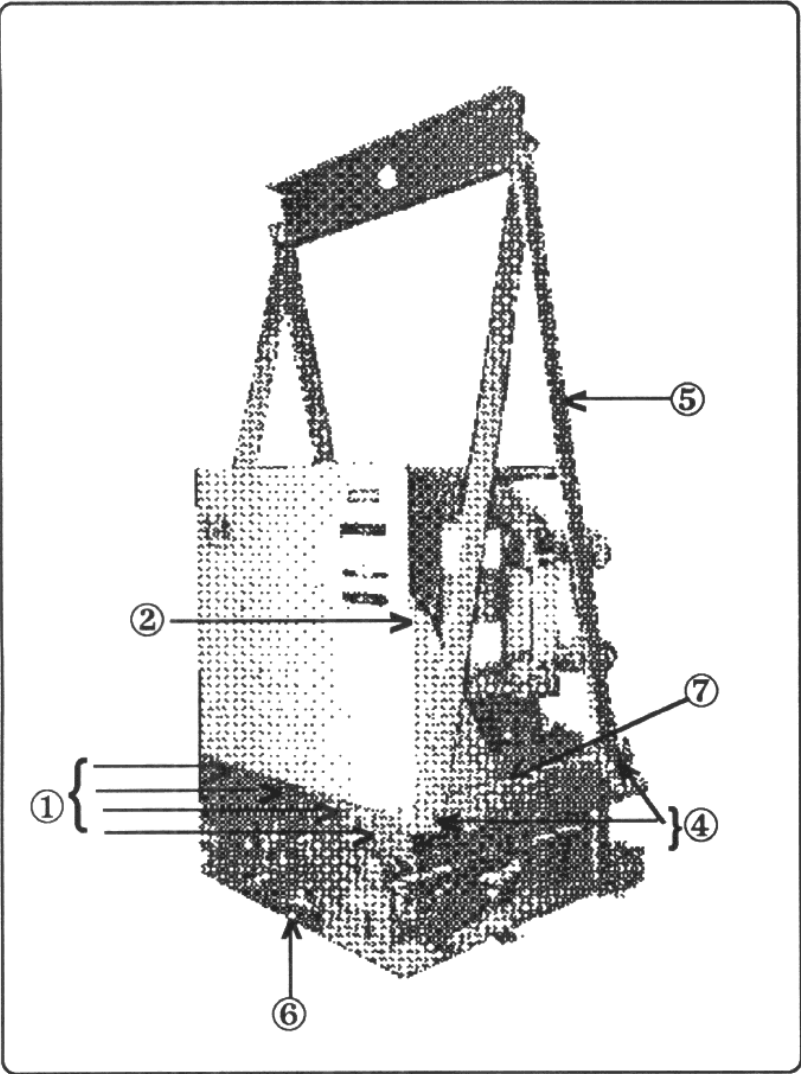

Fig. 1 - Circuit Breaker Assembly with Lifting Yoke Installed
Referring to Fig. 1, if it is necessary to raise or move the breaker, attach a lifting yoke (5) at point 4 on both sides of the truck, or a fifth wheel at point 6 to transport the breaker as required.
Removing Front Cover (See Fig. 1)
Installing Front Cover (See Fig. 1)